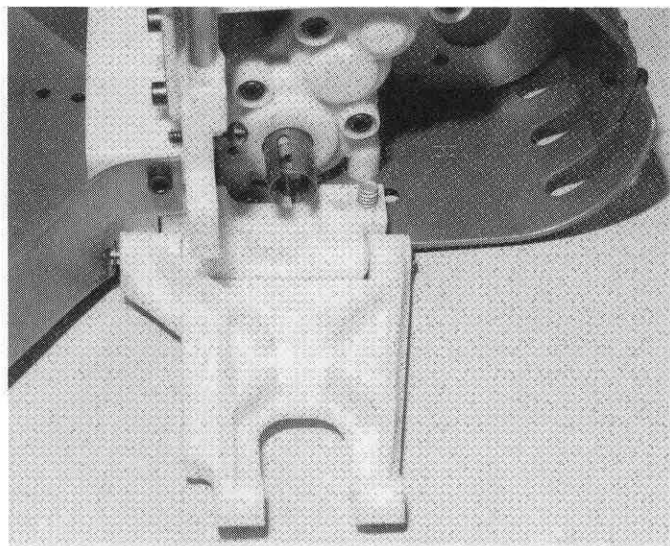

Fig. 80
□ **Fig. 80** Install the L.H. mount to the chassis with two #6280 8-32 x 1/2" FHMS Phillips screws as shown, also from bag #6-8. Now install the R.H. arm. There are four holes in the mounts. Be sure you use the rear holes, which will keep the arms in the forward position.